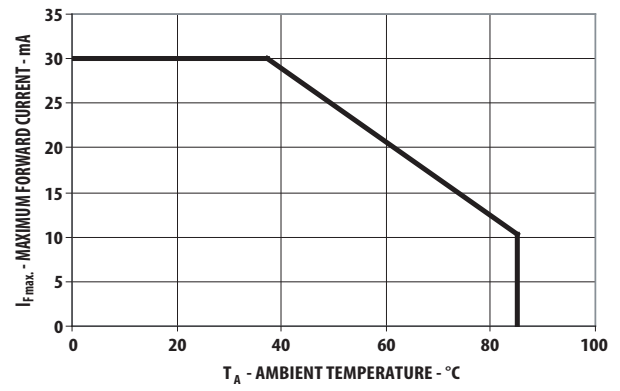

Figure 2. Forward Current vs Ambient Temperature
1. Derate linearly as shown in Figure 2